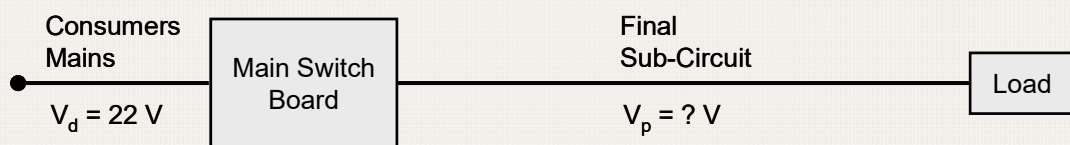

figure 8.
- Figure 8 is a 400 V three phase installation. What is the permissible voltage drop on the f.s.c.?